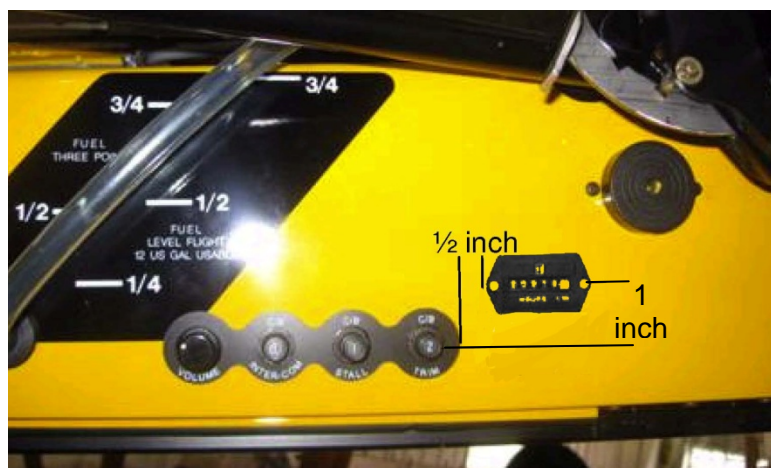

FIGURE 1 - Installation Location
2. Before cutting hole in panel, verify the hour meter will clear fuel lines, flap controls, and structures behind the panel. After verification, cut hole / opening (.893" x 1.4") for the Hour Meter in approximate location shown. See Figure 1.